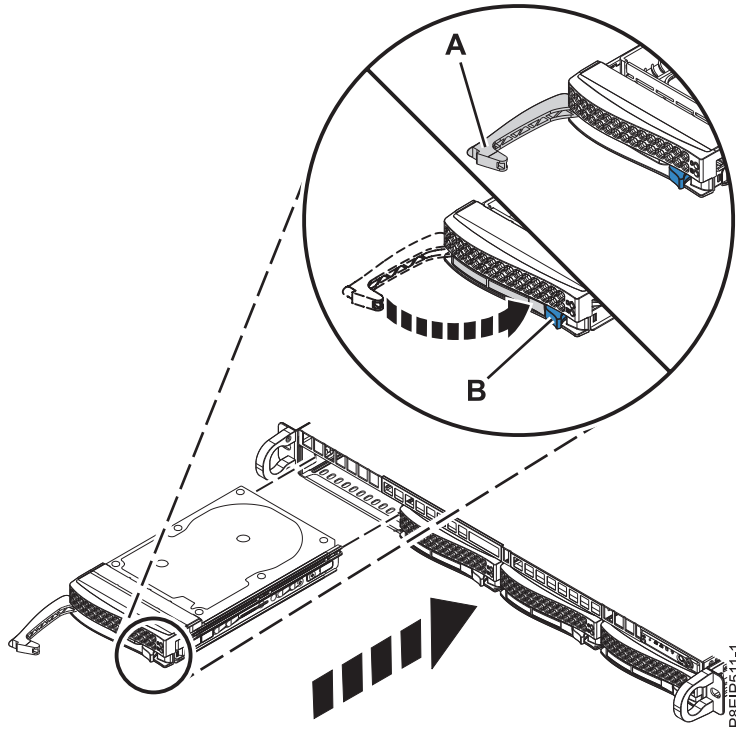

Figure 11. Disk drive lock detail
7. Lock the drive bay handle (A) by pushing in the handle release as shown in Figure 11 on page 13.